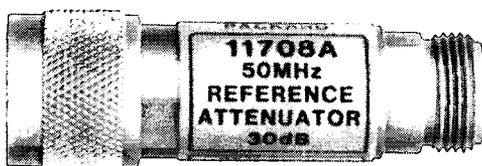

Figure 1. HP 11708A 30 dB Reference Attenuator
15. Included with the Power Sensor is the HP 11708A 30 dB Reference Attenuator (Figure 1). This is used to reduce the RF reference voltage applied by the power meter to the Power Sensor when calibrating the system before use. (The calibration procedure adjusts the power meter for the particular Power Sensor and for ambient temperature.) Because of the high sensitivity of the HP 8484A Power Sensor, the 50 MHz 1 mW reference input supplied by the power meter must be reduced to 1 μ W; the Reference Attenuator provides the means to accomplish this. Further, the Reference Attenuator is intended for use at only 50 MHz, the adjustment frequency, and should be used only for calibrating the power meter for a Power Sensor. The Reference Attenuator is a highly accurate device, intended only for this specific function.